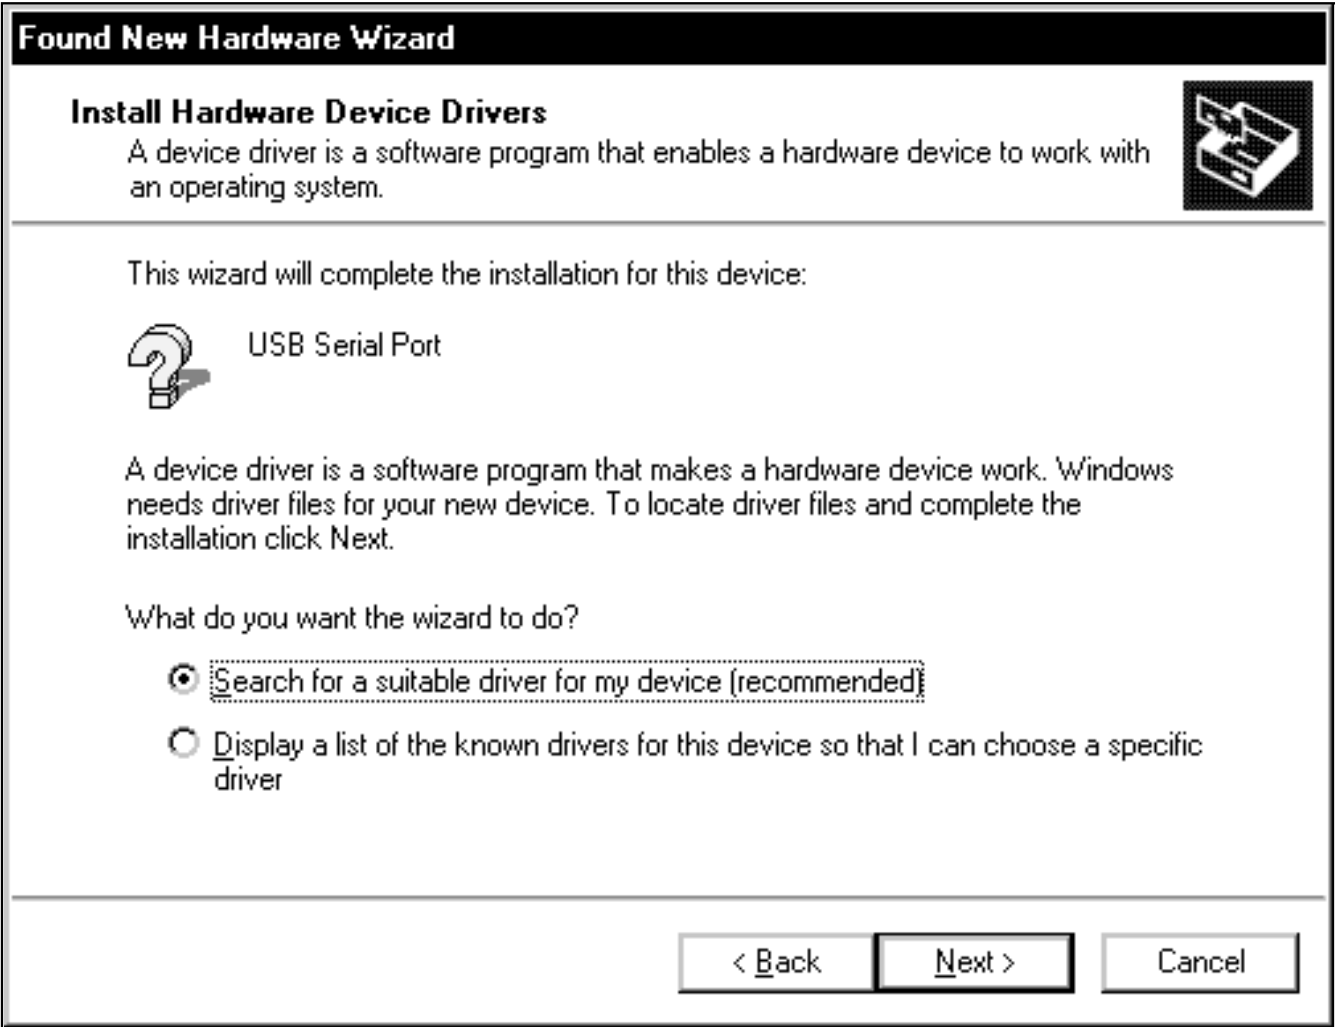

Figure 18. Windows 2000: **Found New Hardware Wizard | Install Hardware Device Drivers** Window
10) At the **Found New Hardware Wizard | Install Hardware Device Drivers** window (Figure 18), choose **Search for a suitable driver for my device (recommended)** and press the **Next** button when finished.